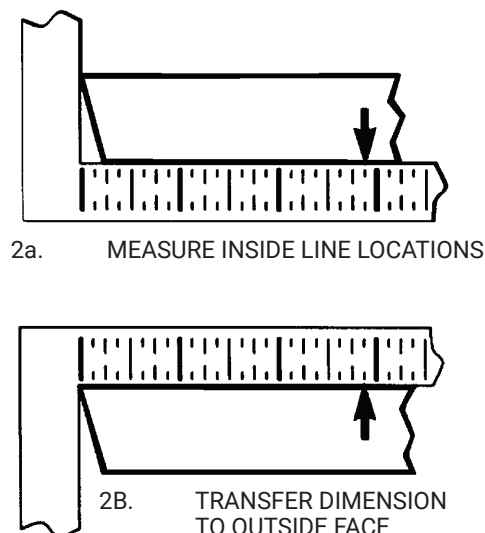

Figure 1
6. Mount trim to door thru holes "B". Fasten finger tight only with 2 screws and washers seating on door as shown in **Figure 1**.
8. Seat device so that trim tailpiece penetrates cam slot as shown in **Figure 1**. Continue as shown in device instructions.